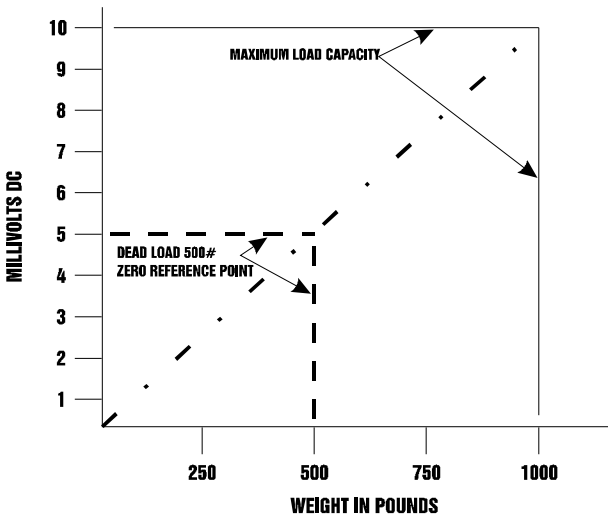

FIG. 5-2 MILLIVOLTS/WEIGHT SCALE
- a. The Weigh Module is designed to supply 5 VDC excitation to as many as four (4) 350 Ohm load cells/points.
- e. A zero reference point will vary from system to system depending on the “Dead Load” of the vessel. “Dead Load” is the weight of the vessel and appurtenances only, with no product loaded. In our example we will assume the dead load to be 500 pounds. (See Fig. 5-2)